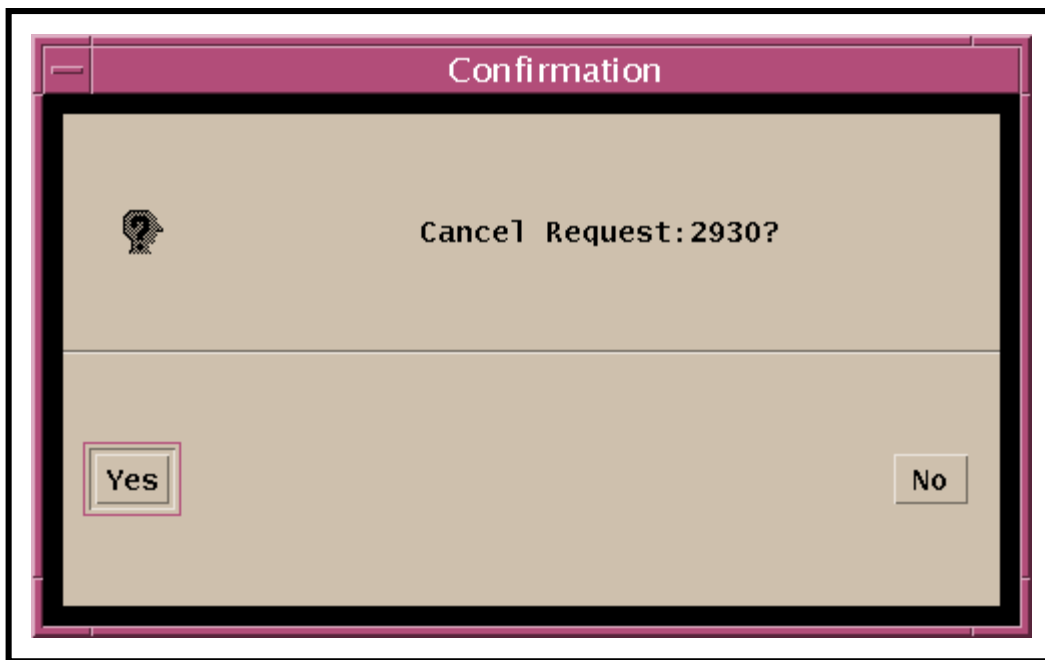

Figure 14. Cancel Request Confirmation Dialogue Box
- A **Cancel Request Confirmation Dialogue Box** (Figure 14) is displayed.
- The **Cancel Request Confirmation Dialogue Box** (Figure 14) is dismissed.